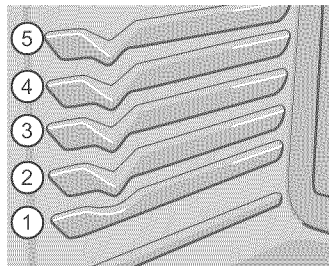

Figure 8: Oven rack positions
- For best results when baking cakes using two oven racks, place racks in positions 2 and 4 (Figure 8).